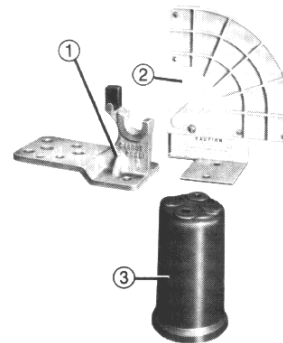

FIGURE 2 REPLACING ARC CHUTE ASSEMBLY
2. Disconnect insulating connector link (M) by removing cotter pin and connecting pin on operating cranks (Q). **Do not change length of the operating crank (Q).**
4. Remove the two bolts holding the jaw and arc chute assembly to the insulator. See assembly drawing, figure 2.